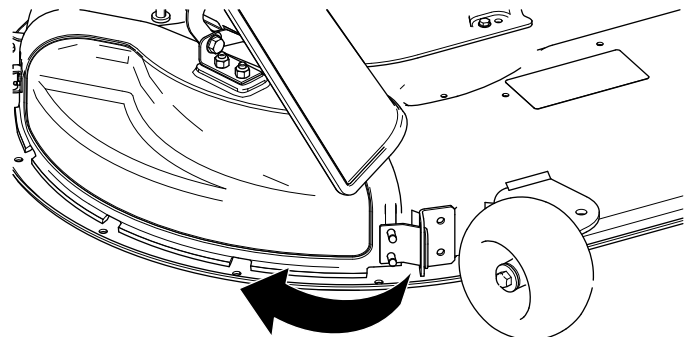

Figure 15
4. Pivot the discharge cover back and toward the deck so that the discharge cover aligns with the mower deck (Figure 15).